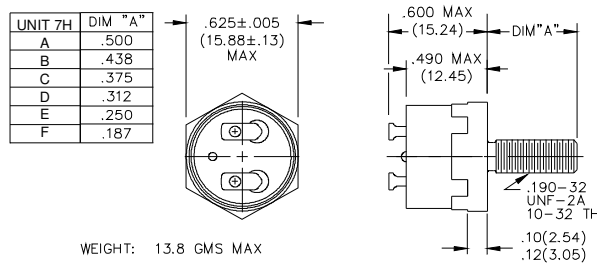

Figure 4:
- 704 = .138-32 Stud Mount (See Figure 4)